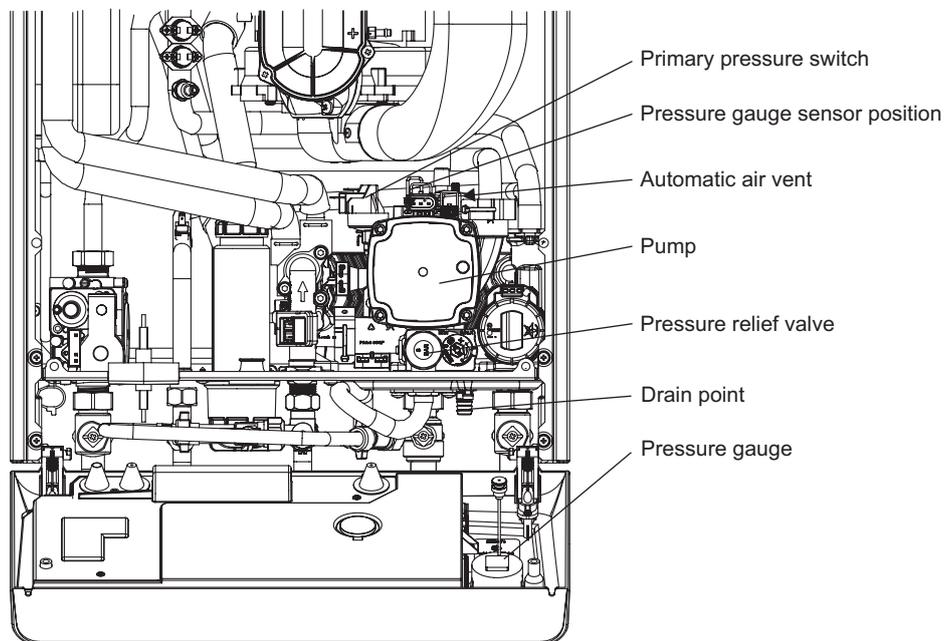

Fig. 7.5
7.21 PRESSURE GAUGE - Fig. 7.5
7.23 AUTOMATIC AIR VENT - Fig. 7.5
7.24 PUMP - Fig. 7.5
2. Connect the plug to the new head. Ensure the pump is set to maximum (3) and re-assemble in reverse order.
7.25 PRIMARY PRESSURE SWITCH - Fig. 7.5
7.26 PRESSURE RELIEF VALVE - Fig. 7.5